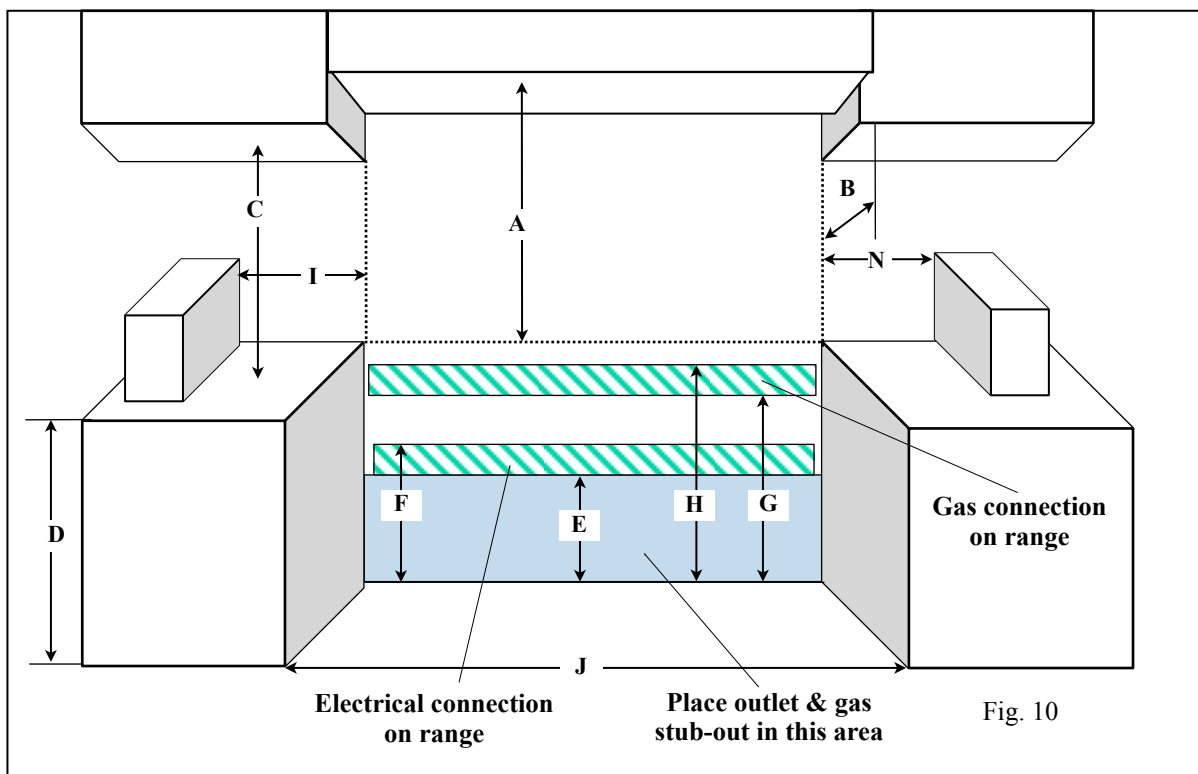

Fig. 10
- The range is a free standing unit. If the unit is to be placed next to cabinets, the clearances shown in Figure 10 are required.